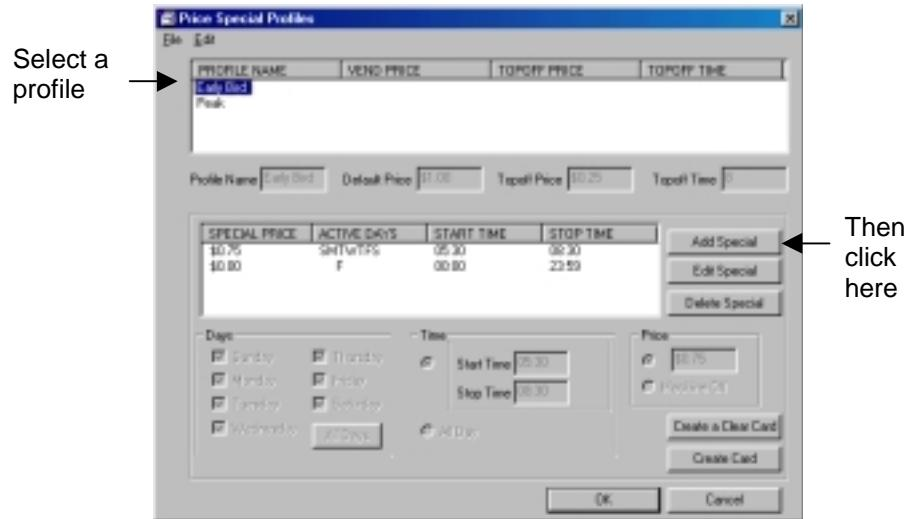

Figure 8.21 Adding a Special
1. Select a Profile from the list to add a Special to (Figure 8.21).
2. Click the Add Special button (Figure 8.21).